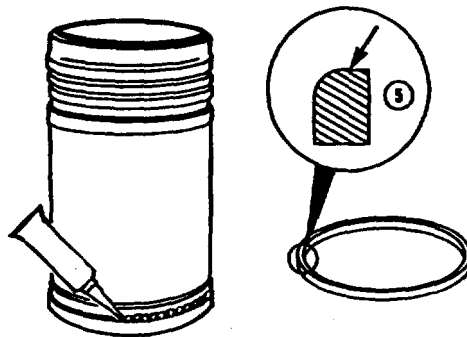

FIGURE 4-90. Liner Sealant.
- (7) Use RTV sealant. Apply a bead of sealant to the bottom of the cylinder liner flange and the special ring (FIG. 4-90). Ensure sealant bead size is between 3/64 and 1/16 inch (1.1 and 1.6 mm).